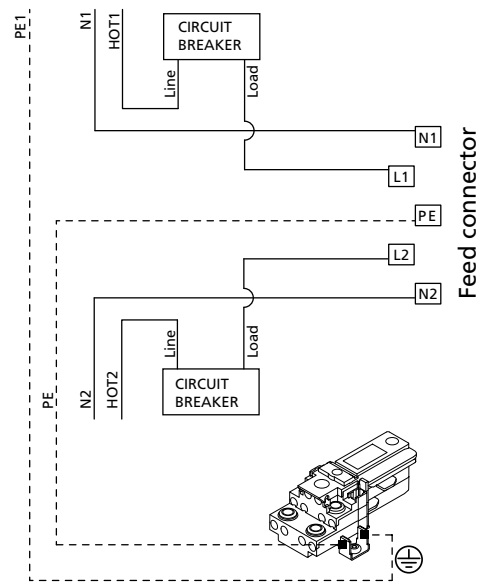

Figure 18: End feed wiring
- 2: Strip white Neutral 1 wire and connect to Neutral 1 terminal (N1) of feed connector. Clamp wire using screw. See *Figure 18*.
- 4: Connect load from current limiting circuit breaker to track feed connector terminal (L1) using provided wire. See *Figure 18*.